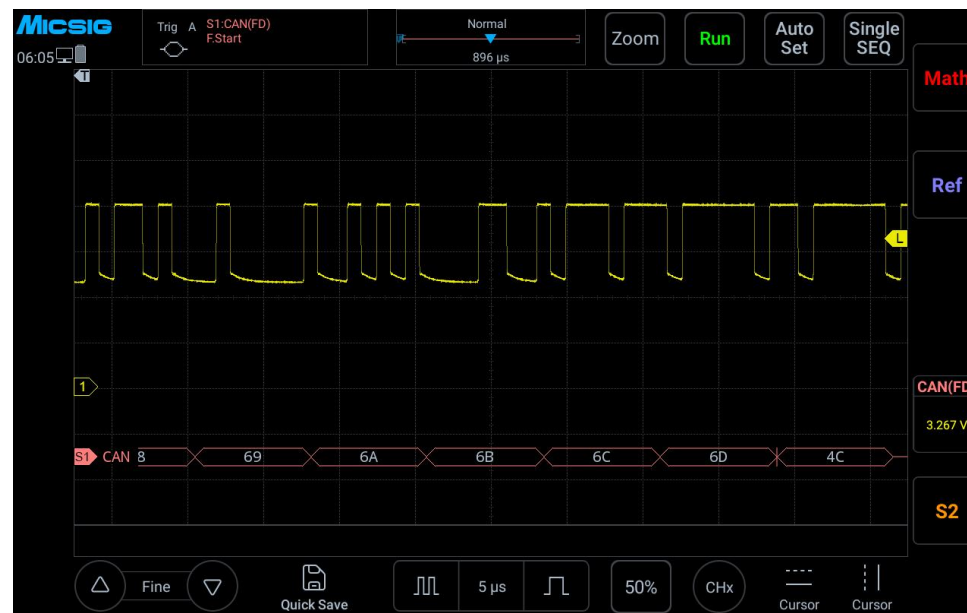

Figure 14-16 CAN bus decode interface
- (3) Open the trigger mode configuration menu and click “Frame Start”;
- (4) Adjust the threshold level according to the signal amplitude; the CAN trigger graphic interface is shown in Figure 14-16: